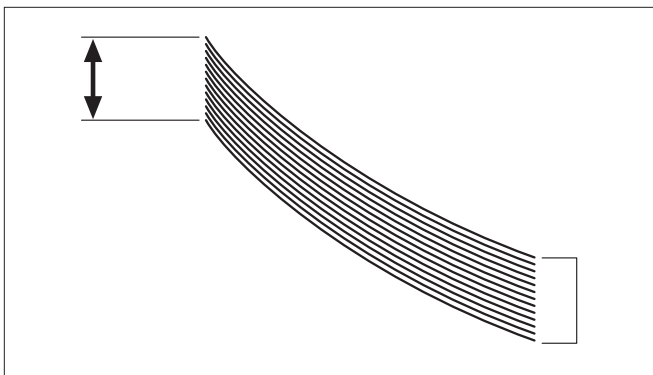

Figure 21. Shingle the First Stack
1. Shingle a small stack of the envelopes (Figure 21) so that the stack conforms to the curvature of the gate assembly.
2. Push the stack, gently, to make sure lead edges touch the gate bracket assembly and front edges of the side guides (Figure 21).